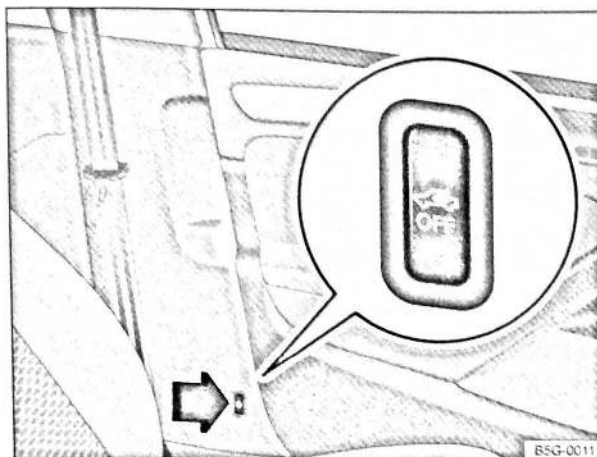

Fig. 32 Next to the driver seat: button for switching off the interior monitoring system and anti-tow alarm
When interior monitoring and the anti-tow alarm have been deactivated by pressing the  button $\Rightarrow$ Fig. 32, these functions can be reactivated by pressing the  button again. The yellow indicator lamp goes out.
The orientation lighting in the button $\Rightarrow$ Fig. 32 must be lit up when switching the systems off. To switch the orientation lighting on, remove the vehicle key from the ignition lock and open the driver door.
- Press the  button $\Rightarrow$ Fig. 32. A yellow indicator lamp will light up in the button until the vehicle is locked.